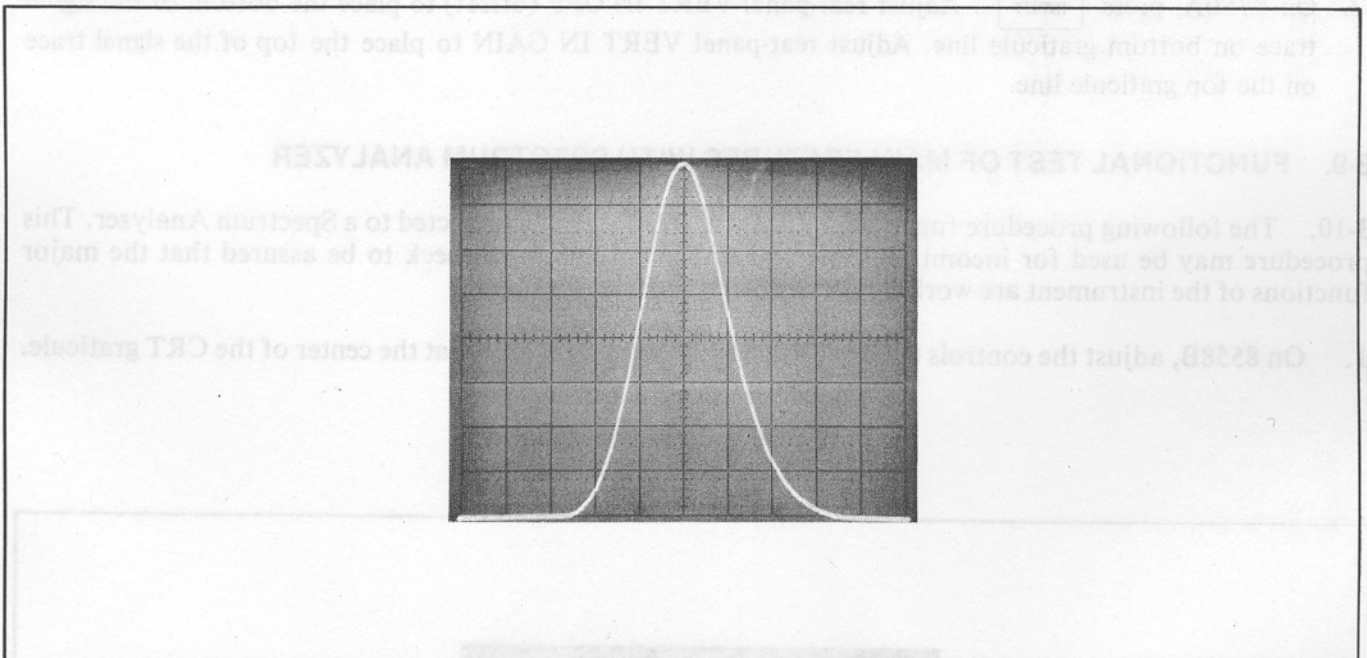

Figure 3-11. Spectrum Analyzer Calibration Signal used to Adjust 8750A
5. Readjust 8558B tuning to place the calibration signal trace in the center of the CRT. Select LINEAR mode. Expand the signal trace so it covers the width of the CRT graticule as shown in Figure 3-11.
7. On 8750A, press  . On 8558B, readjust TUNING control to center the test signal trace (Figure 3-11). On 8750A press the front-panel  pushbutton. Adjust the rear-panel SWP IN OFF (offset) to center the trace. Press  pushbutton and note position of edges of test signal. Press  and adjust rear panel SWP IN GAIN to place the edges of the test signal trace in the same relative horizontal position as noted above in bypass mode.